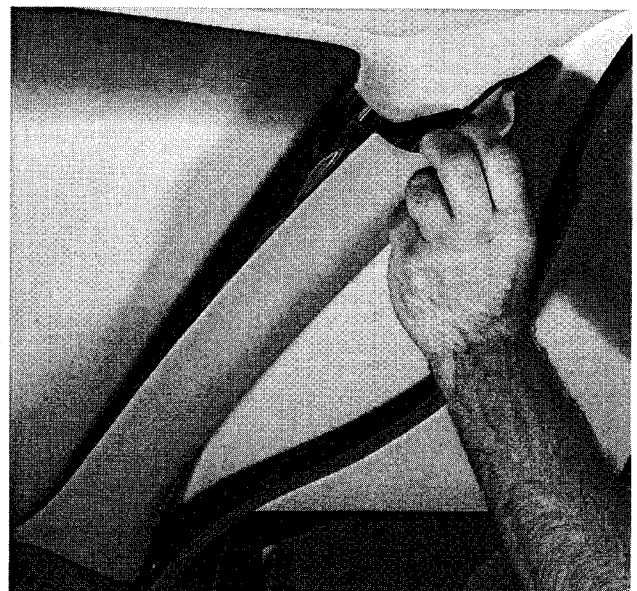

Fig. 6. A-pillar (windshield pillar) trim removal. Right side shown, left is similar.
12. Remove A-pillar (windshield pillar) trim on left and right sides. See Fig. 6.